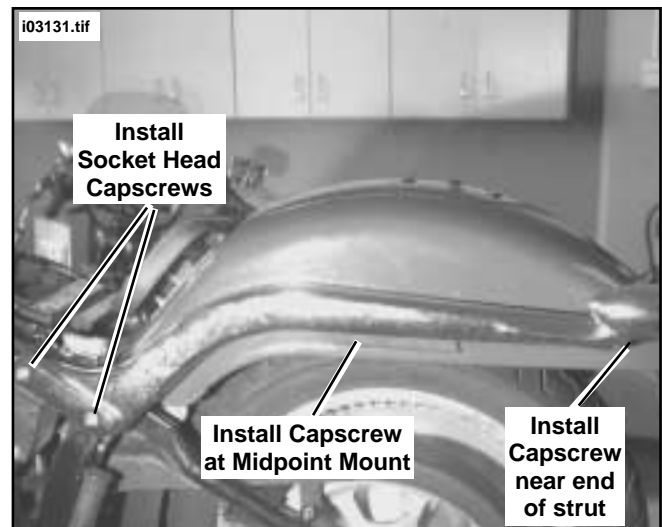

Figure 13. Install Strut to Fender
18. See Figure 13. Reinstall strut to fender using socket head capscrews at front of strut. Finger tighten.